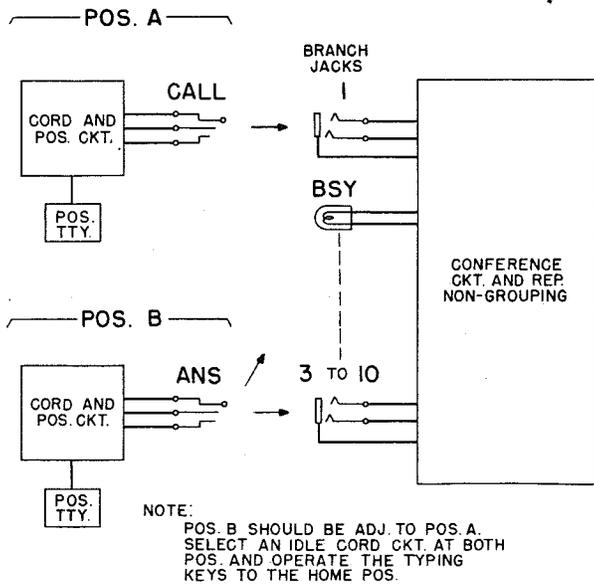

Fig. 1 - Operation Tests- Nongrouping Circuits
(A) Operation Tests - Conference Circuits not Arranged for Grouping (Fig. 1)